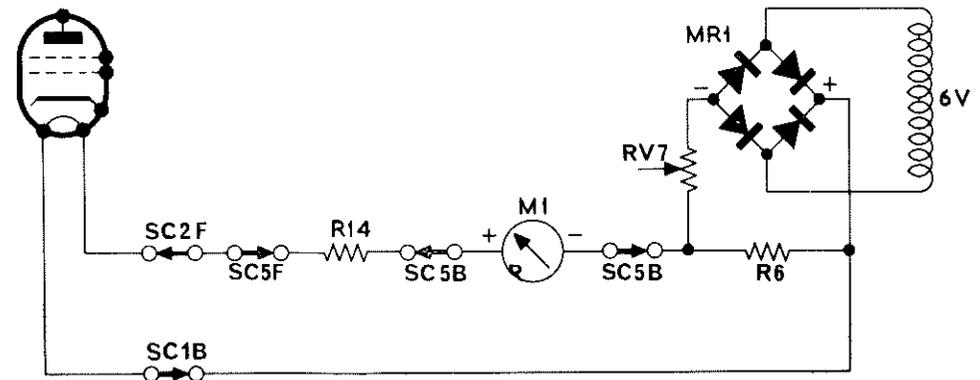

FIG. 4. FILAMENT CONTINUITY.
9. FILAMENT CONTINUITY (See Fig. 4)